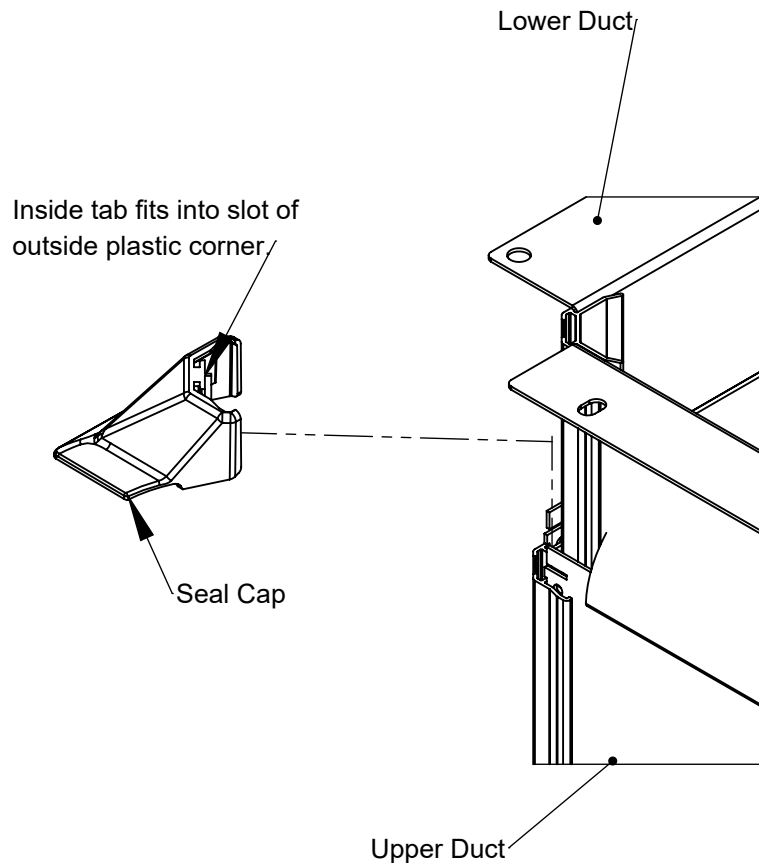

Fig. 7
7. Turn the duct over (upside down) so that the mounting flanges on the lower duct face the top. Slide the Seal Caps onto the 4 corners of the outer duct in the orientation shown. Position the caps about mid-way down (Fig. 7).